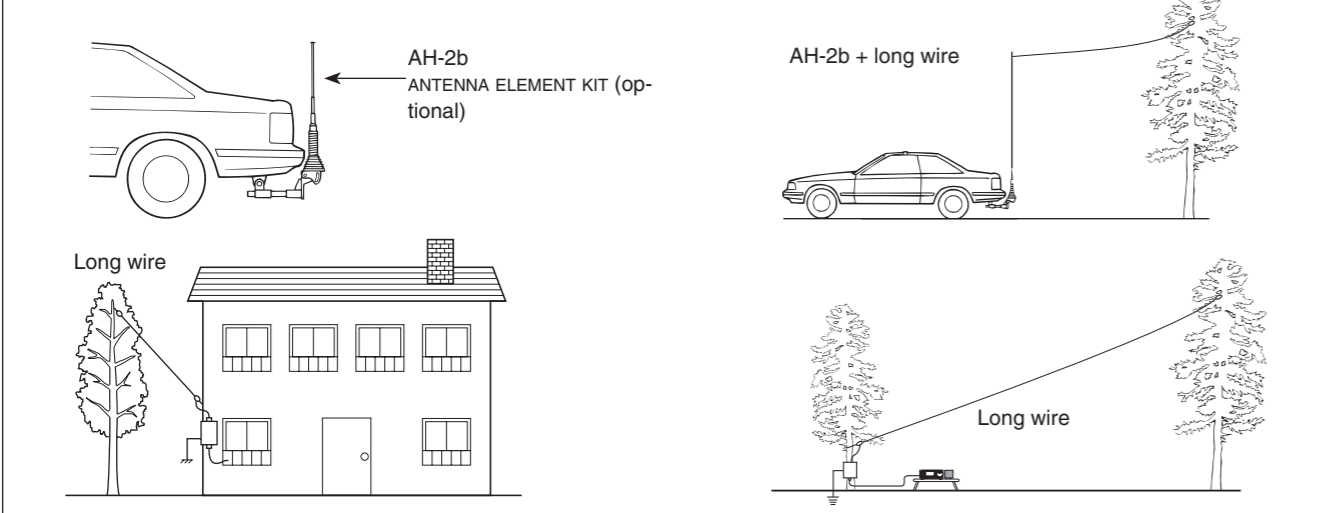

Fig.6 MOUNTING EXAMPLES
- ⑧ Connect an antenna to the AH-4 (Fig. 6).
- ⑨ Connect the control cable and the coaxial cable to the transceiver.